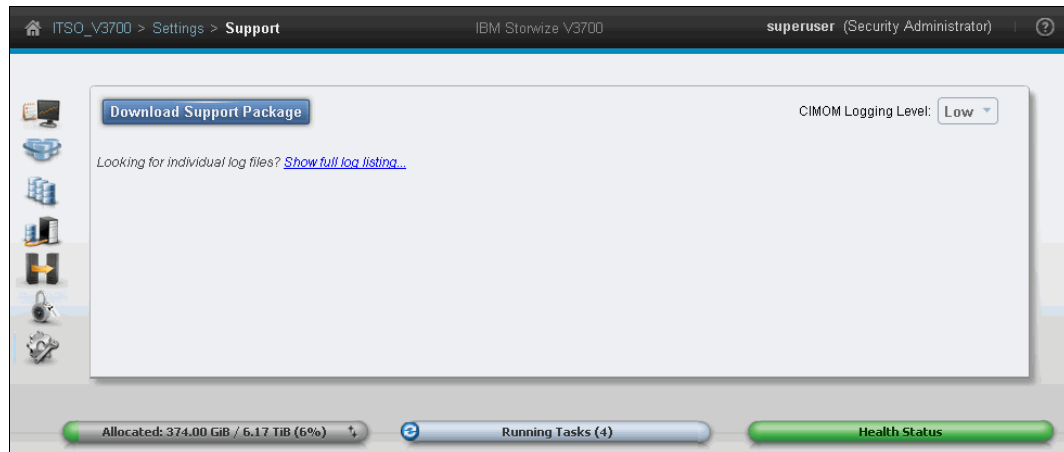

Figure 9-26 Download files menu
2. Click **Show full log listing**, as shown in Figure 9-26.